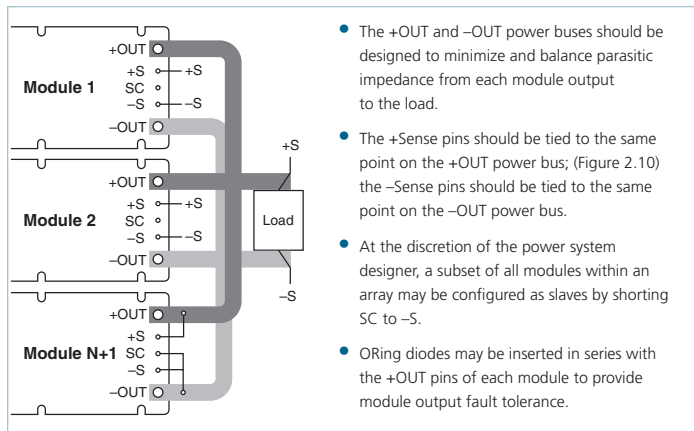
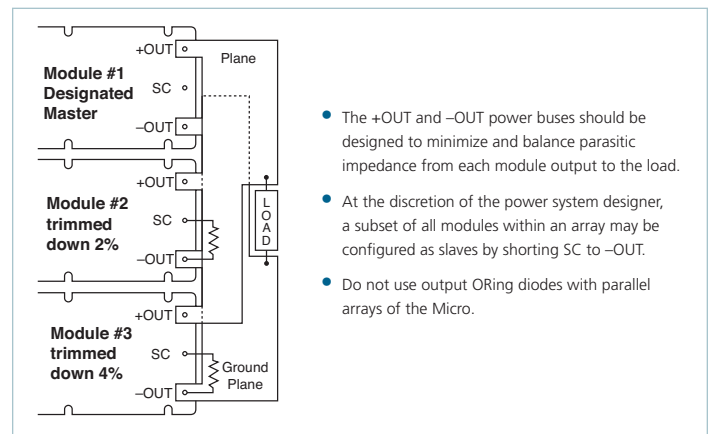

Figure 2.9 — N+1 module array output connections (Maxi and Mini)
Figure 2.11 — Parallel module array output connections (Micro)
**Parallel Operation (PR Pin):** The PR pin supports paralleling for increased power with N+1 or N+M redundancy. Modules of the same part number will current share if all PR pins are suitably interfaced. Figures 2.9 and 2.10 show connections for the Maxi and Mini modules; Figure 2.11 shows connections for Micro array. Applications containing two or more Micro modules must define a designated master (talker) by stagger trimming the output voltage of each subsequent module down by at least 2% or setting the remaining Micro modules in the system as designated listeners by connecting the SC pin to the negative output pin.